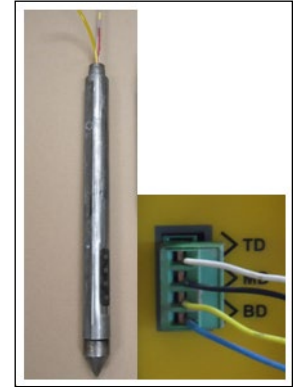

Figure 5.2: EC Wire Connections
3. Secure the EC wires into the green terminal block connector and insert into the FI6000. The wires match to the EC dipoles in the following top-down order when the probe tip is on the ground – white, black, yellow and blue (Fig 5.2).